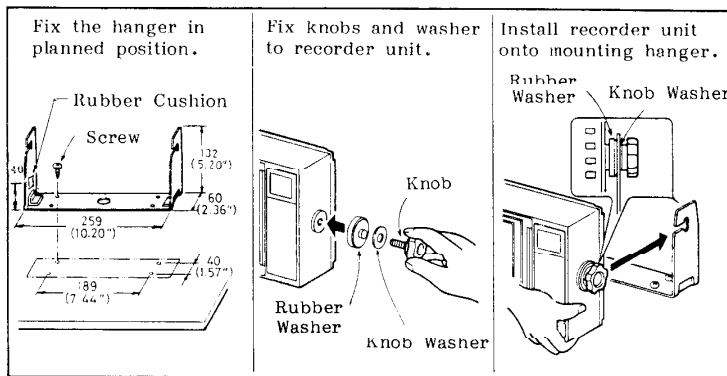

Fig.10 Mounting the Recorder Unit
1. Mark the screw locations by using the mounting hanger as a template. (See fig.10.)